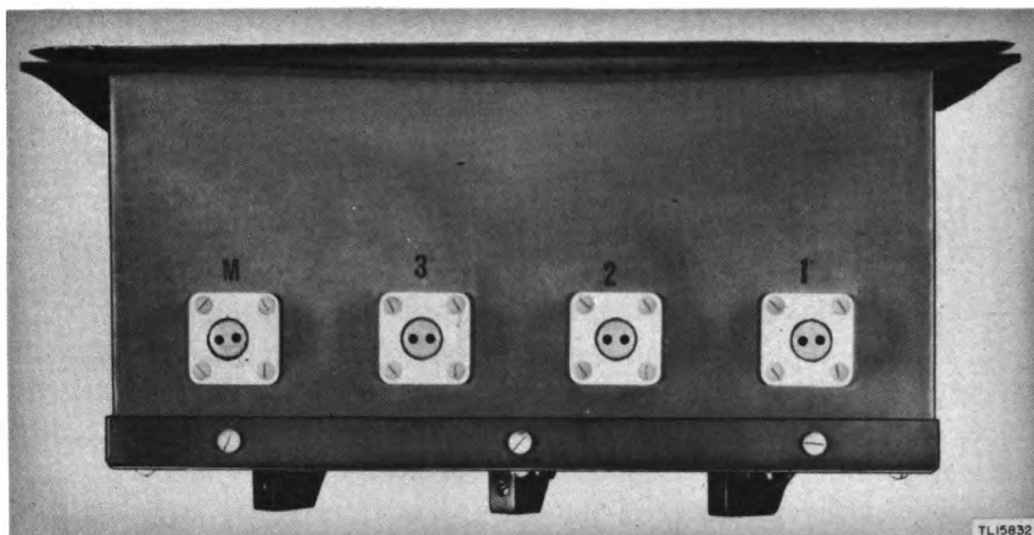

Figure 7. Control Box BC-1278-A, output receptacles.
b. Cut four slots in the lower side of the rectangular hole to accommodate the four receptacles shown in figure 7.
- (1) Screw the threaded end of Cord CD-1031 into one of the threaded holes located in the stop ring on the lower mast section.
- (2) Connect the other end of the cable to the receptacle located below the letter M on the rear of the control box.
- e.** After the seven input cables are connected, the final step in the installation of the antenna is to connect the three 10-foot output cables Cord CD-1030, to the exposed receptacles (fig. 7) marked with adjacent numbers 1, 2, and 3. No output cable is furnished with Antenna RC-154-A for connection to the only remaining exposed socket, marked with adjacent letter M.